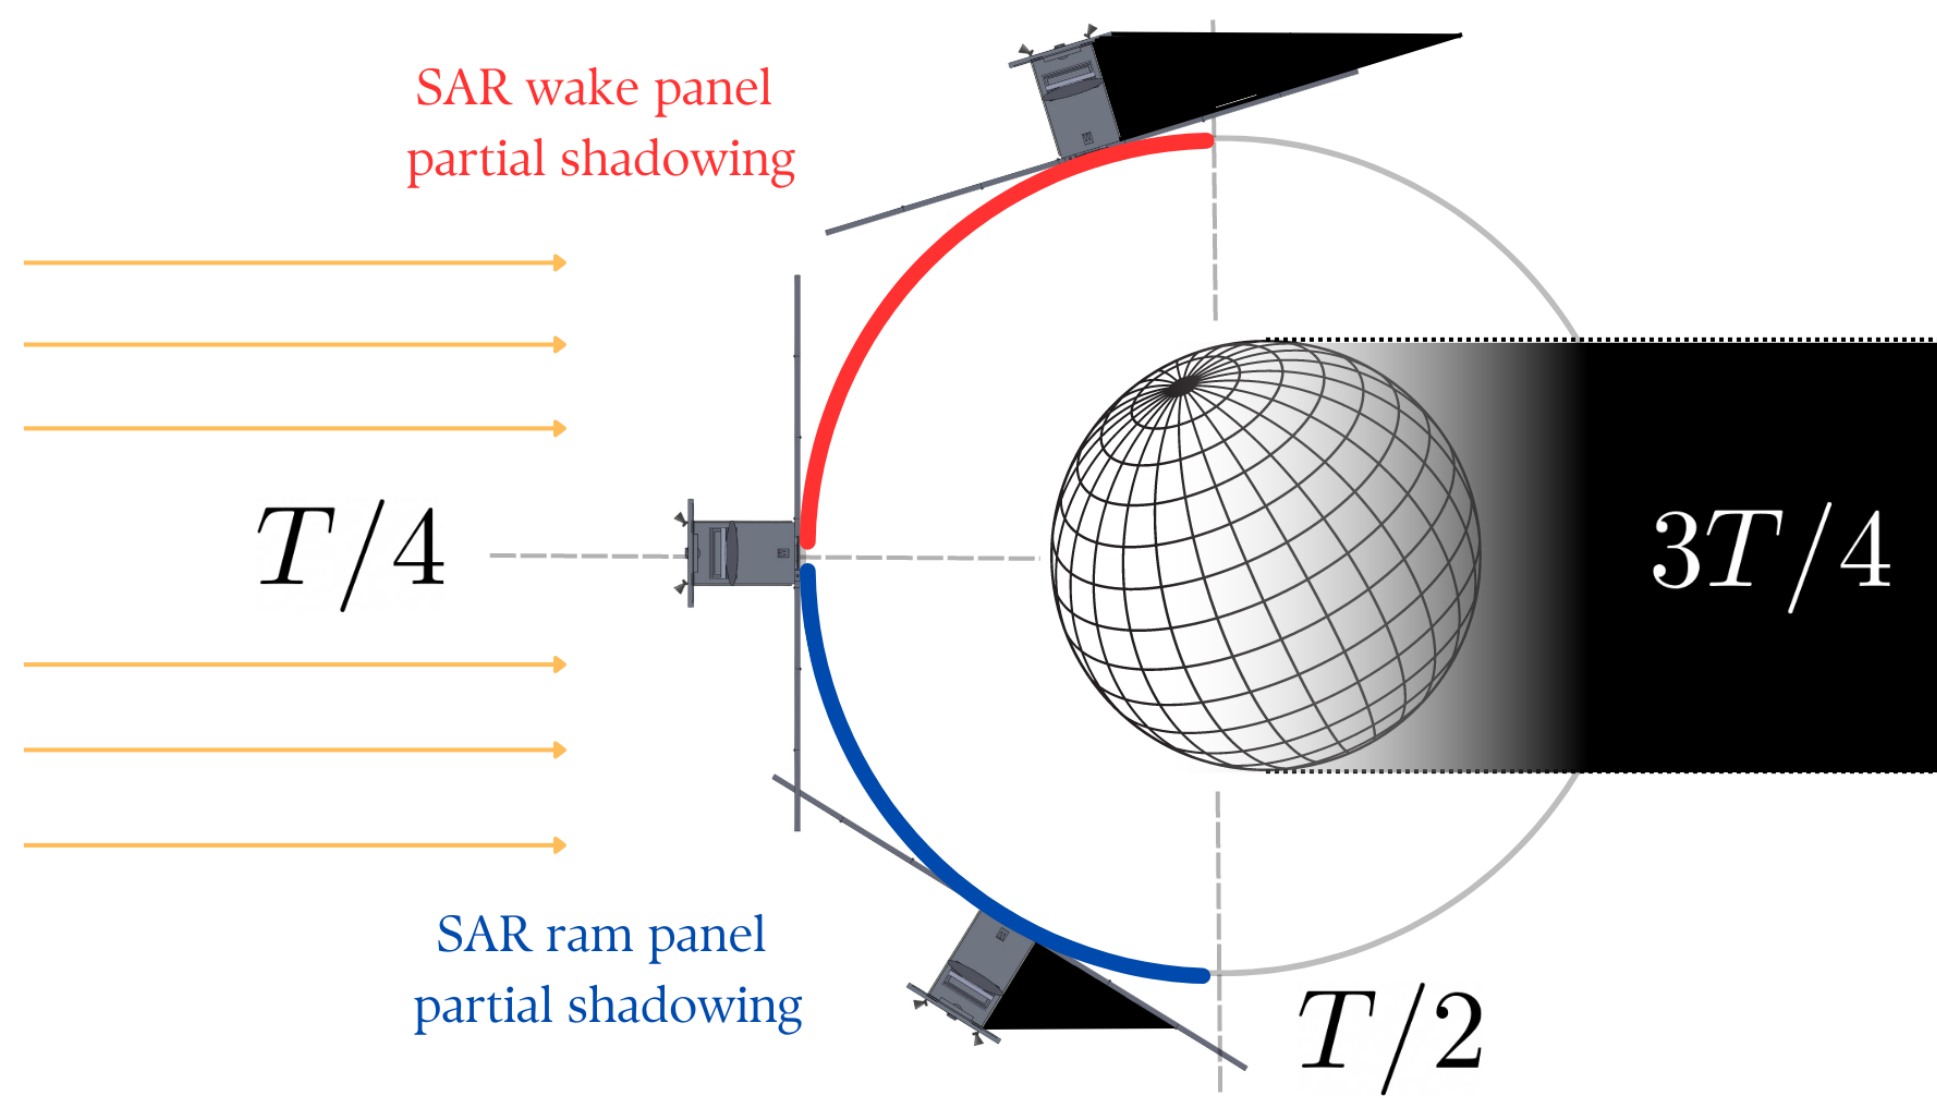

Figure 1. Two-dimensional model for SAR shadowing
3. 2D analysis for shading, sun angles, etc. (see Fig. 1)